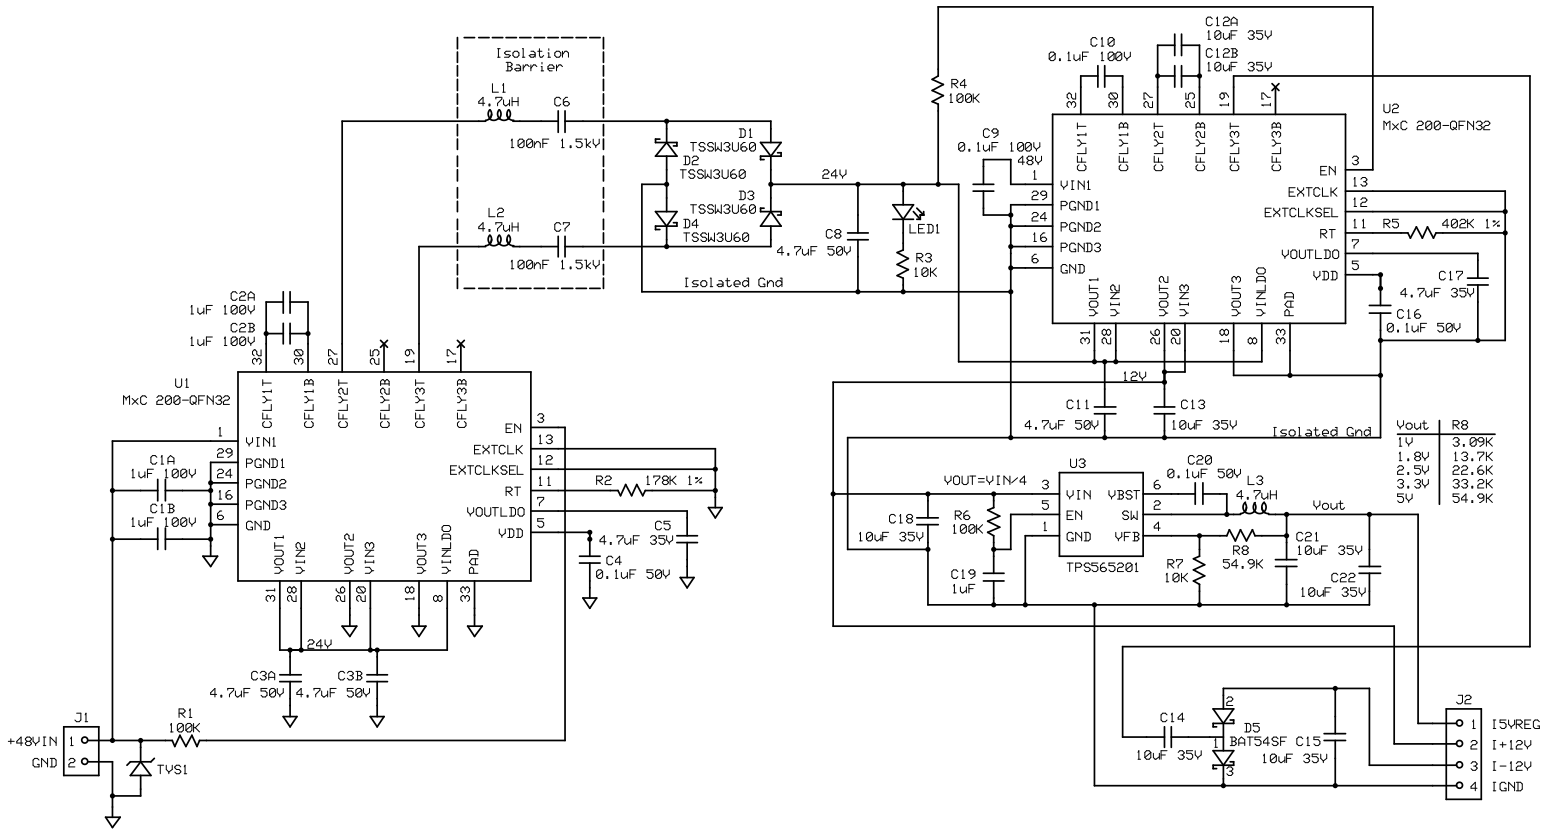

Figure 14: MxC 273 48V to ±12V & +5Vreg Output TL EVB Schematic
- 3) Other buck regulator output voltages are available by changing R8. Refer to the VOUT Table in Figure 14 schematic.